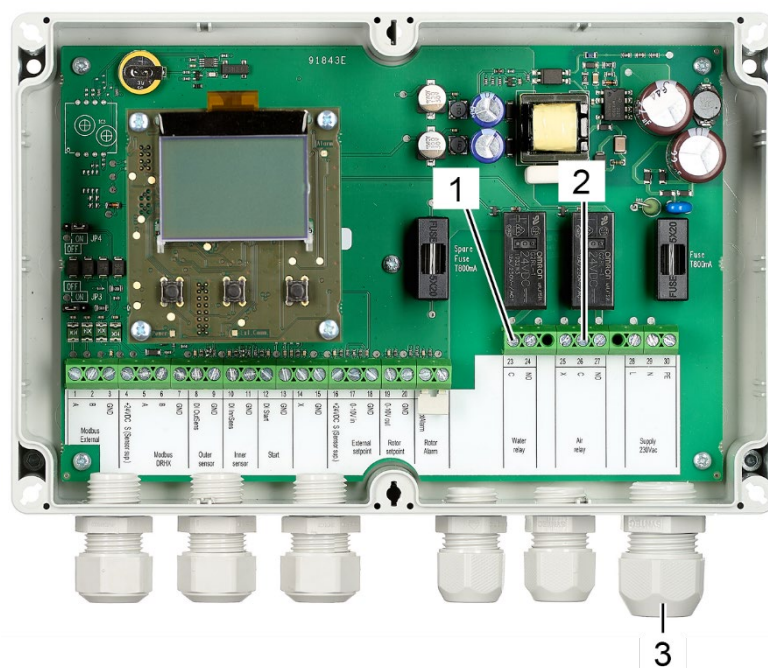

Fig. 89: Terminals for the relay and valve power supply
21. Insert a 230 V power supply cable through the cable socket (Fig. 89/3).
23. Connect the terminals 23 (Fig. 89/1) and 26 (Fig. 89/2) of the rotor cleaner control to the cable terminal to which the L wire of the 230 v power supply cable is connected.